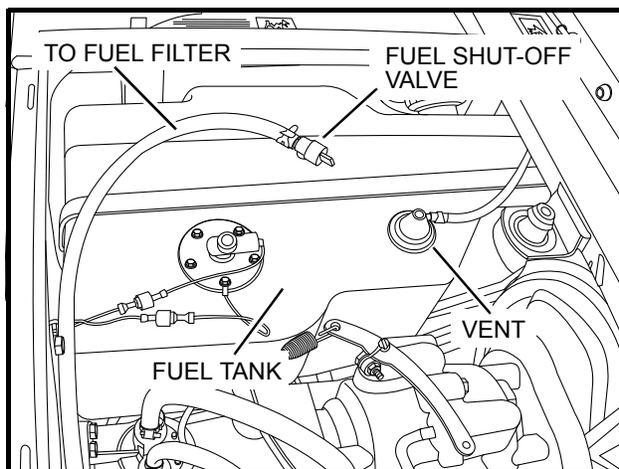
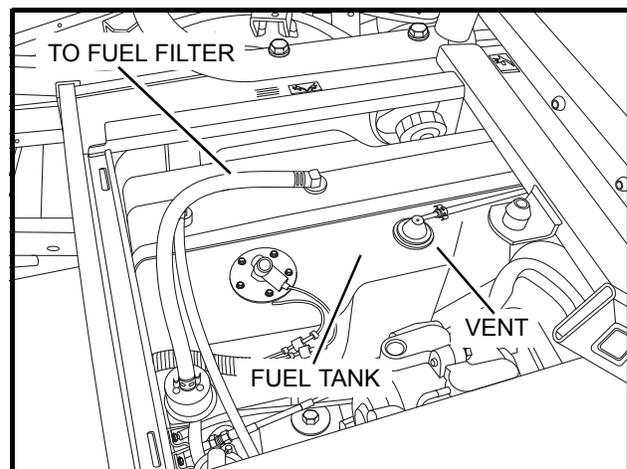

Figure 3-8 Fuel Tank – Gasoline Vehicles
Figure 3-9 Fuel Tank – Diesel Vehicles
- 4.3. Disconnect the fuel vent line from the fuel tank vent nipple (Figure 3-8, Page 3-5).
- 6.2. Disconnect the fuel vent line from the fuel tank vent nipple (**Figure 3-9, Page 3-5**).
2. Restore the fuel system to operation (**Figure 3-8, Page 3-5 or Figure 3-9, Page 3-5**).